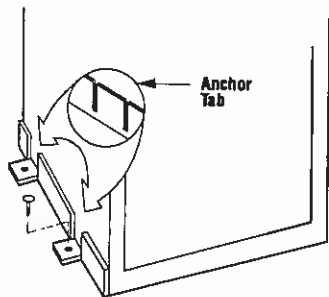

Figure 10
Step 4. Fireplace may be anchored to floor. Bend down four (4) anchor tabs located at the base of the fireplace and secure to the floor by nailing with 8d nails (Figure 10).